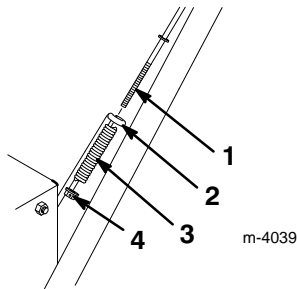

Figure 8
1. Slide the spring onto the bottom of the traction control rod (Fig. 8).
2. Thread a flange locknut (flange side up) onto the bottom of the traction control rod below the spring (Fig. 8).